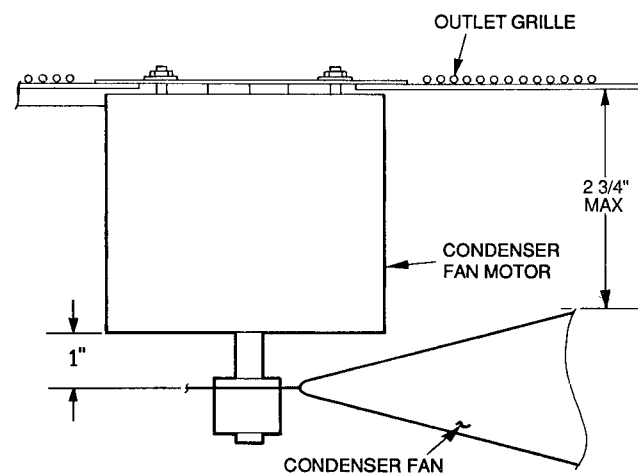

Fig. 36 — Condenser Fan Adjustment
Condenser-Fan Adjustment (Fig. 36)
4. Adjust fan height as shown in Fig. 36.